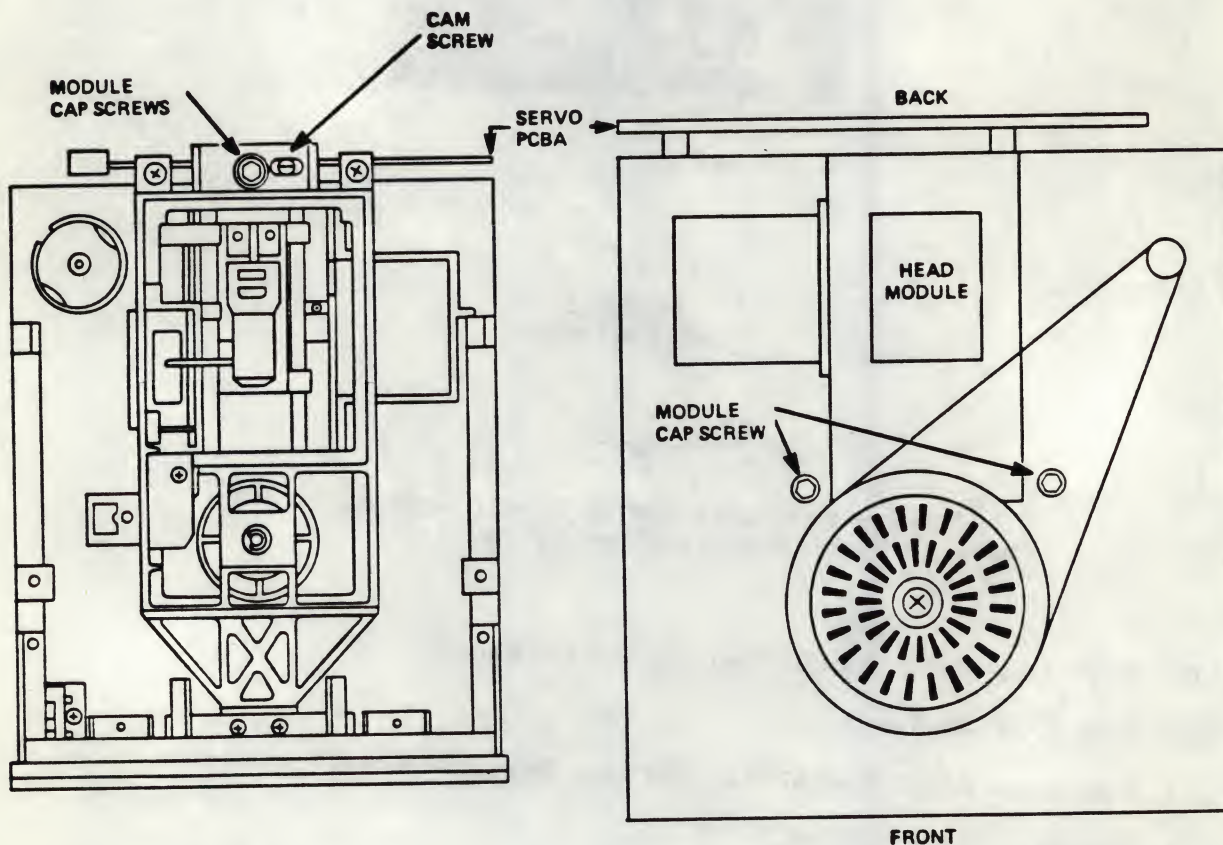

Figure 2-6
- 2.2.2.1 Turn the three (3) module cap screws – two of which are located underneath and one of which is located at the back of the disk drive in the center – counterclockwise one-half (1/2) turn (see Figure 2-6) with a 7/64" Allen wrench.
- 2.2.2.4 Tighten the three (3) module cap screws (see Figure 2-6) with a 7/64" Allen wrench.